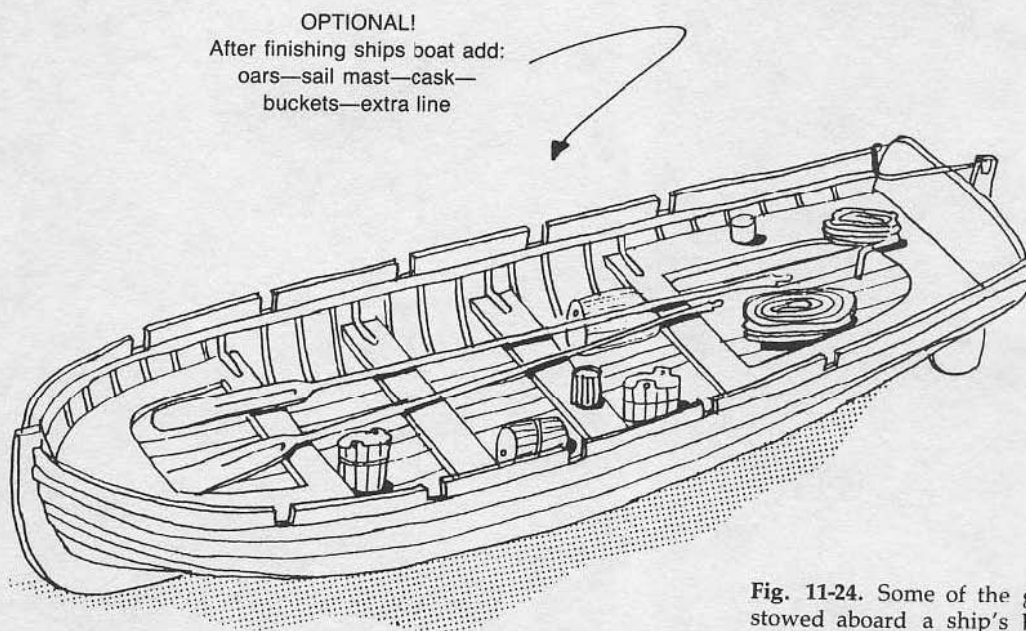

Fig. 11-24. Some of the gear stowed aboard a ship's boat (Courtesy of Northshore Deadeyes, Ltd.).
- ⊕ Add other accessories before you mount the boat to the ship model. FIGURE 11-24 indicates some of the items you might wish to stow aboard.